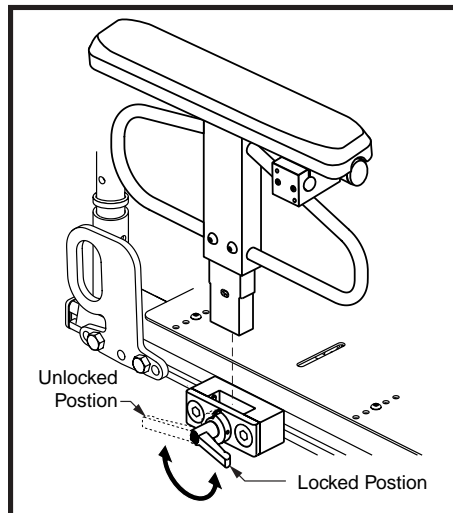

Figure 14. Heavy Duty Drop-In Armrest Removal/Installation
1. Rotate the armrest lock lever rearward. See figure 14.
1. Place the armrest assembly into the armrest lock. See figure 14.
1. Rotate the armrest lock lever rearward and remove the armrest from the armrest lock. See figure 14.